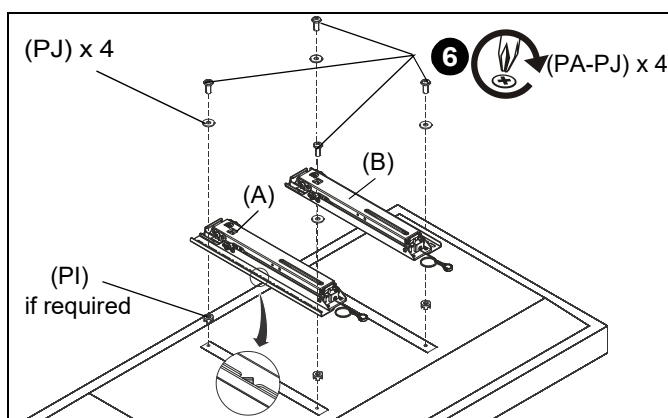

Figure 24
2. Select screw *diameter* by examining hardware (PA-PC and PD-PH) (6mm or 8mm) and comparing with mounting holes on display. (See Figure 24)
4. Select screw *length*: (See Figure 24)
- By hand, insert **SHORTEST** length screw of selected diameter (PA-PH) through 3/8" washer (PJ), bracket (A or B), nesting spacer (PI, if required), into display mounting hole. Do NOT thread screw into hole at this time.
5. Make sure diamond on interface brackets is even with center of display. (See Figure 24)
6. Use selected screws (PA-PH), washers (PJ) and spacers (PI), if necessary, to connect interface brackets (A and B) to back of display. (See Figure 24)